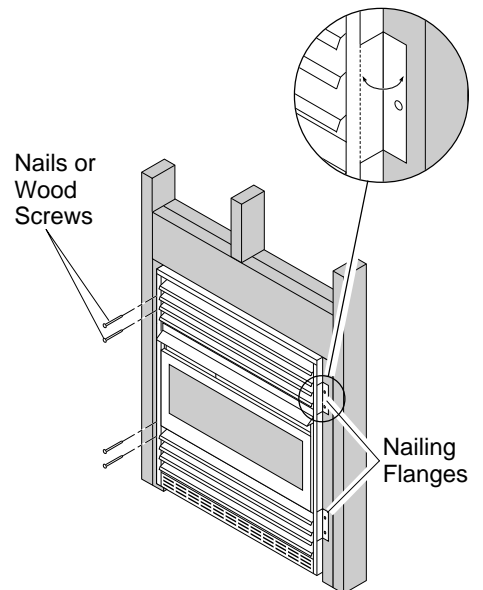

Figure 11 - Attaching Fireplace to Wall Studs
8. Bend four nailing flanges on outer casing with pliers (see Figure 11).